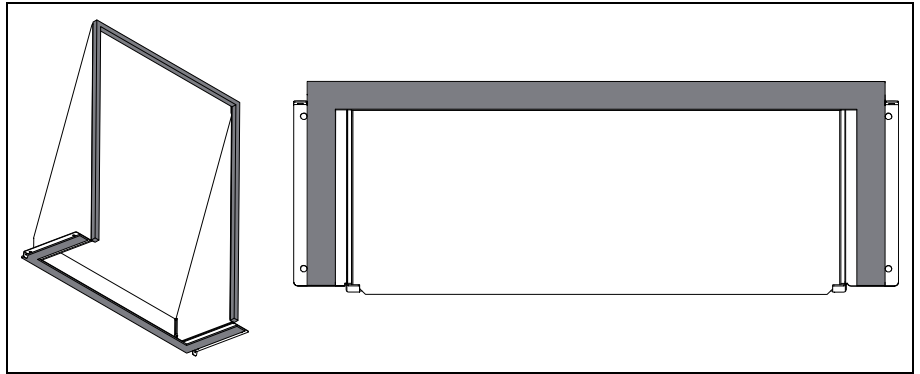

Fig. 18: Gasket on contact surface between the vertical and horizontal parts
- Glue the gasket (W21 x H3 mm) onto the contact surface between the vertical and horizontal air duct parts (fig. 18).